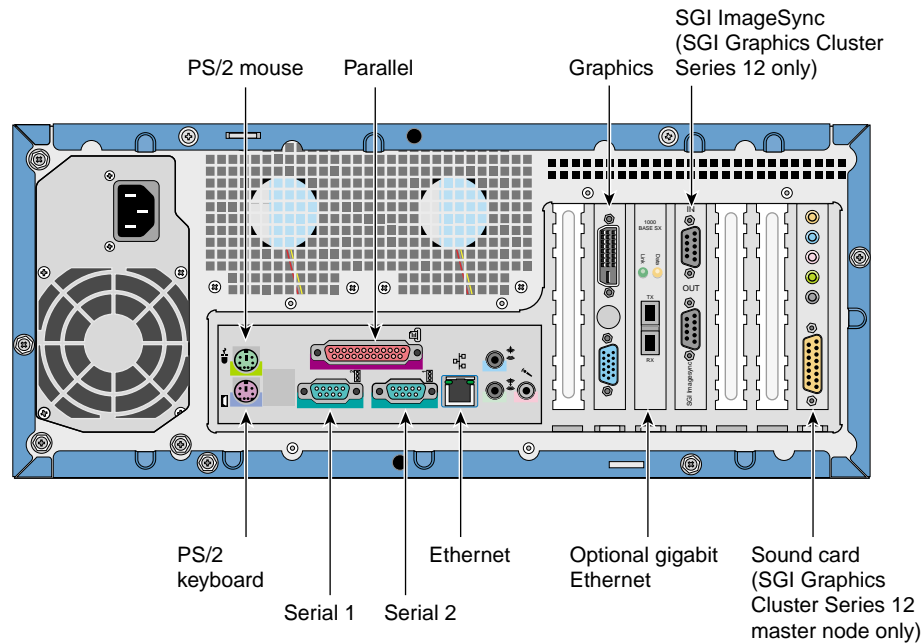

Figure 4-20 Master Node Connectors
- Connect the HD15 video cable to the system as shown in Figure 4-20.